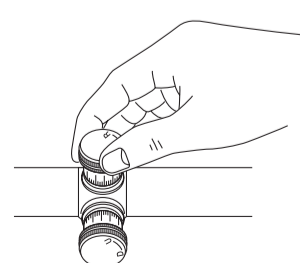

Fig. 3-3
- If the bullet hits to the right of the aiming point, turn the windage adjustment (clockwise) in the direction of the arrow marked "L" for left as in Fig. 3-3. If the bullet hits to the left of the aiming point, turn adjustment (counter-clockwise) in the direction of the arrow marked "R" for right.